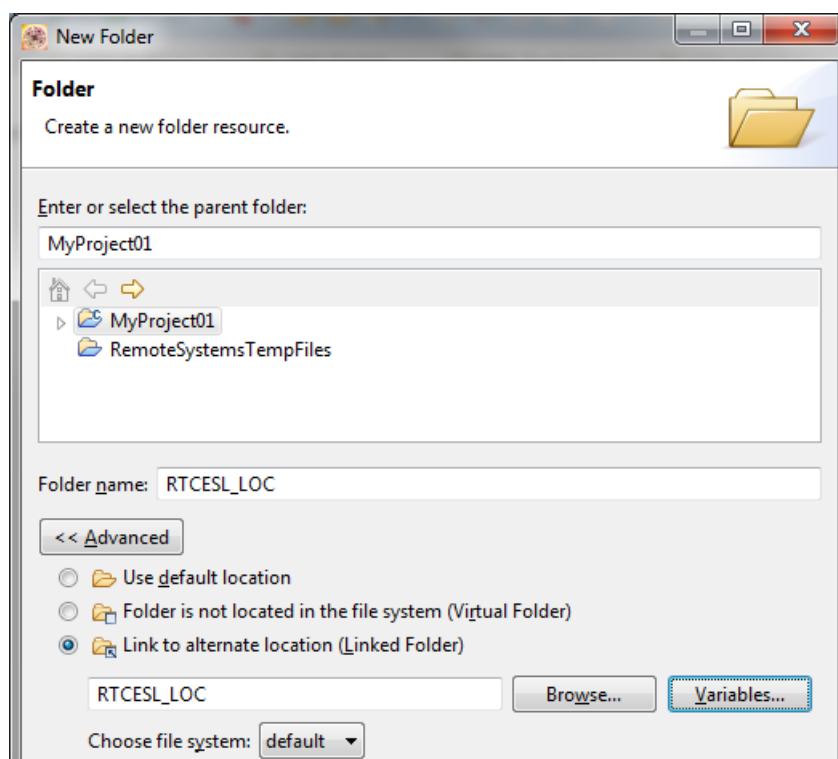

Figure 1-15. Folder link
4. Click Variables..., select the RTCESL_LOC variable in the dialog, click OK, and/or type the variable name into the box. See Figure 1-15.